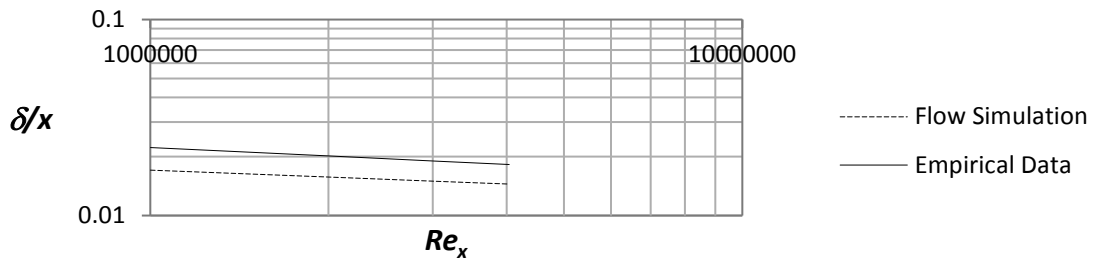

Figure 2.30b) Boundary layer thickness for turbulent boundary layers at  $Re_x = 10^6 - 4.04 \cdot 10^6$
Place the file “**graph 2.30b)**” on the desktop. Repeat step **24** and choose the sketch  **$x = 0.2, 0.4, 0.6, 0.8$  m** and check the box for **Velocity (X)**. Rename the xy-plot to **Turbulent Boundary Layer Thickness**. An Excel file will open with a graph of the boundary layer thickness versus the Reynolds number; see figure 2.30b).